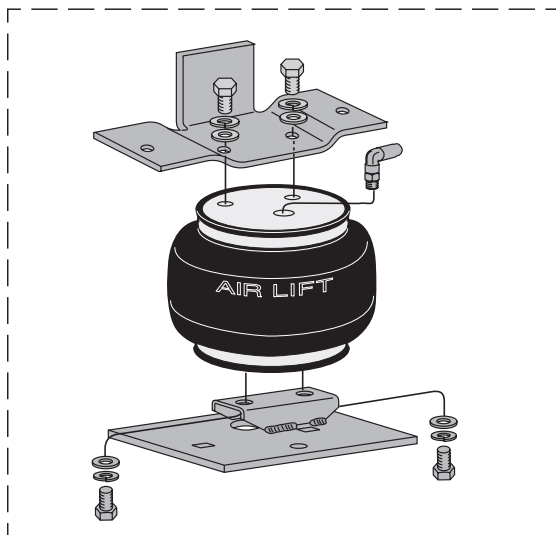

fig. 1
6. Set a roll plate (E) on both ends of the double convolute bellow (Figure 1). **Kit 57128 with the single convolute bellow does not require roll plates.**
8. Attach the lower bracket to the bellow using two bolts (H), two lock washers (I), and two flat washers (J) (Figure 1).
9. Attach the upper bracket (B) to the bellow using two bolts (H), two lock washers (I), and two flat washers (J). Be sure that the tall vertical leg of the upper bracket is opposite of the air fitting port (Figure 1).